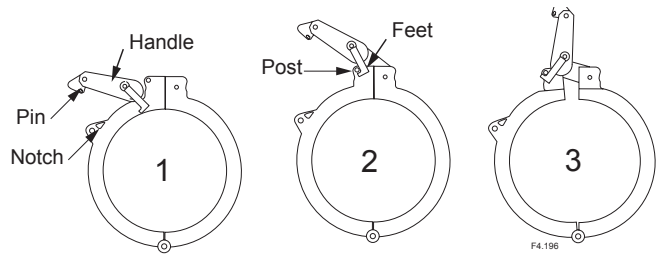

Figure 4
1. Remove the dome-to-base clamp. Pull the clamp slightly to the side and lift the clamp handle, using the feet of the clamp to pry against the two posts to spread the clamp open. Open one side of the clamp all the way and pull it back on itself quickly to remove it from the dome and base. (Fig. 4)